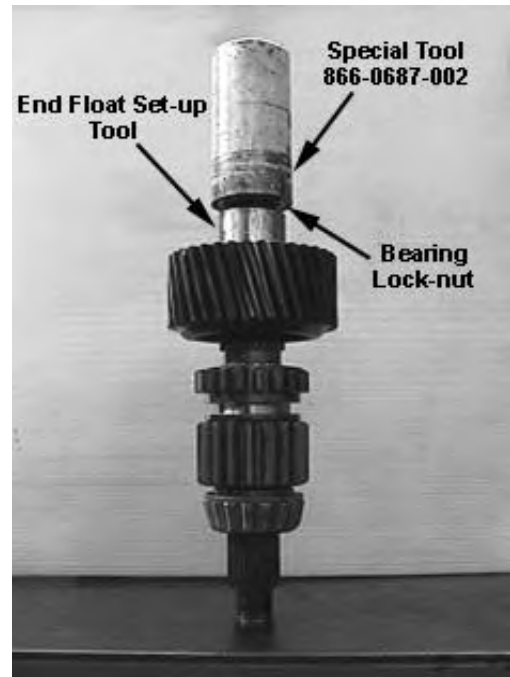

Fig. 37
6. Place the end-float set-up tool onto the shaft and install the rear bearing lock nut using special socket #866-0687-002. Torque to spec. See *Fig. 37*.